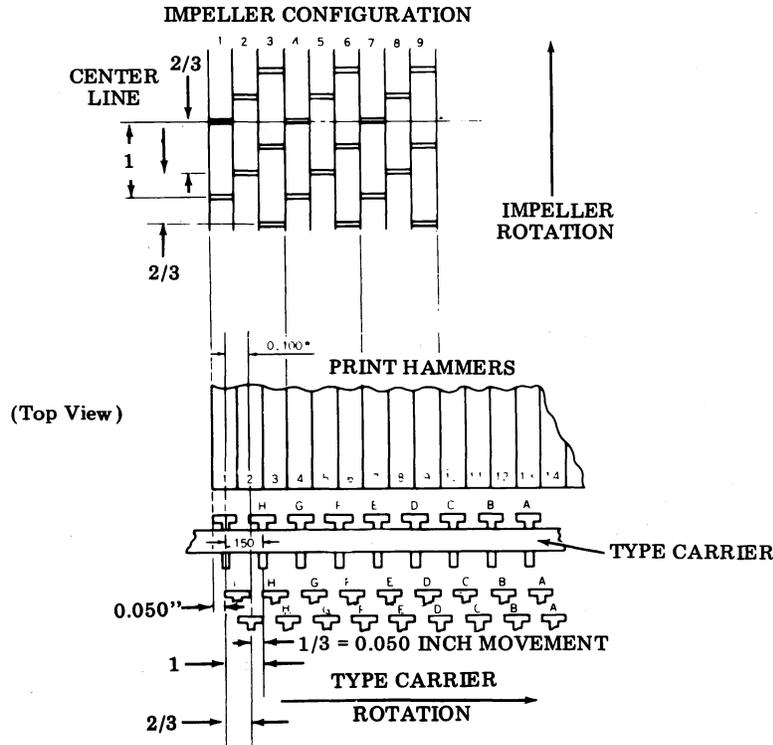

Fig. 42—Impeller to Print Hammer Alignment
I. Impeller to Print Hammer Alignment (Fig. 42)